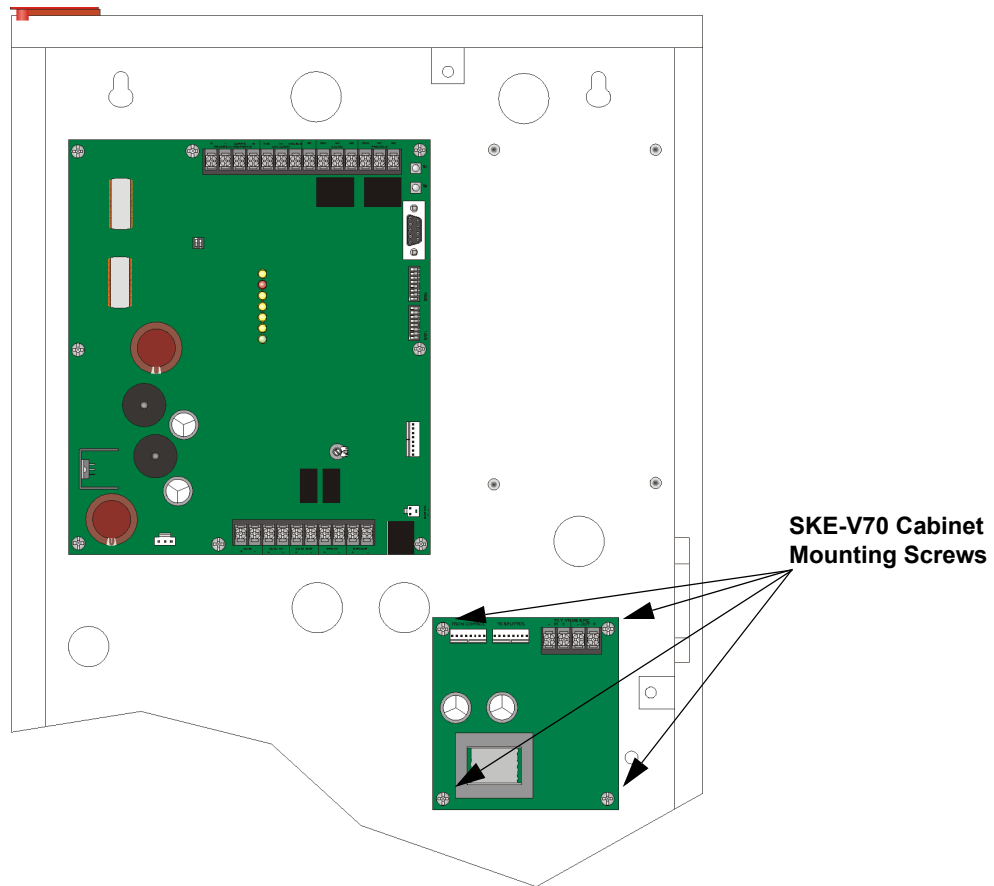

Figure 8-2 Main Control Board Mounting Location
4. Mount the module into the cabinet as shown in Figure 8-2.